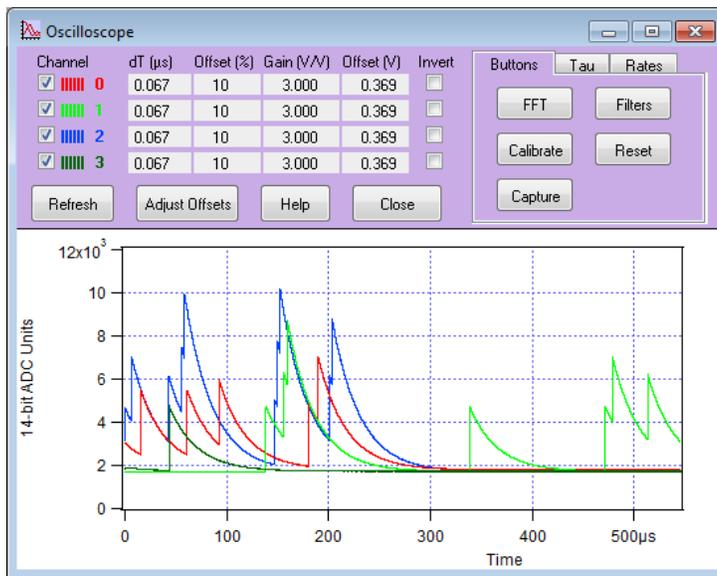

Figure 2.3: OSCILLOSCOPE panel.
2. At the bottom of the PARAMETER SETUP panel, click on the *Oscilloscope* button. This opens a graph that shows the untriggered signal input. (Fig.2.3)
As mentioned in section 2.3, the OSCILLOSCOPE (Figure 2.3) is used to view untriggered traces as they appear at the ADC input and to set all parameters relating to the analog gain and offset.